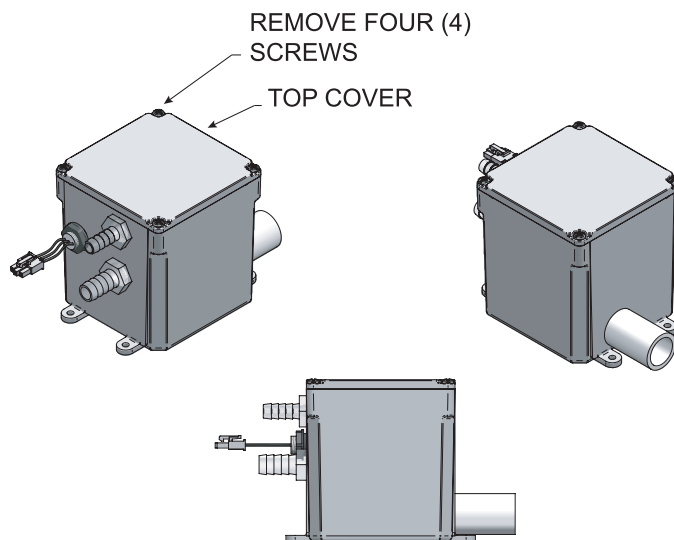

Figure 7-1_ Condensate Trap
1. Remove the four (4) screws securing the top cover to the condensate trap and remove the cover (FIG. 7-1).
5. Replace the four (4) screws removed in Step 1.